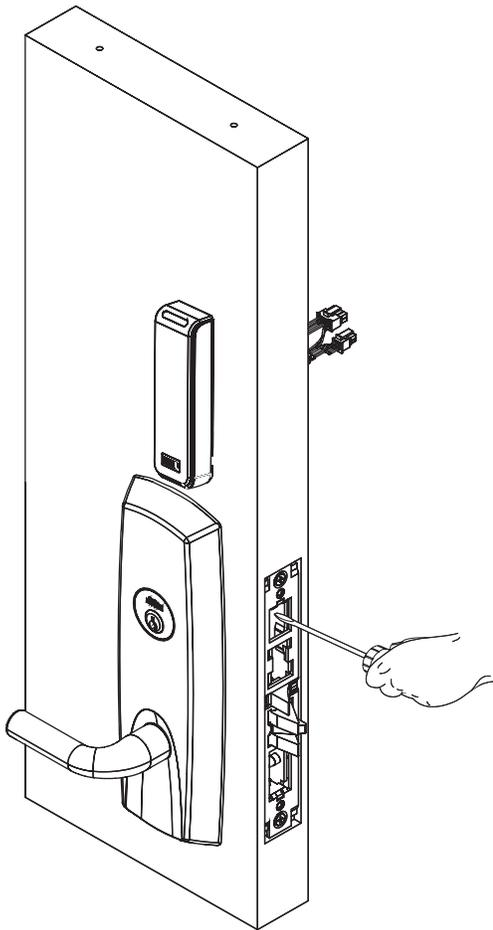

Figure 9c
4. Tighten down set screw to prevent cylinder movement (Figure 9c).